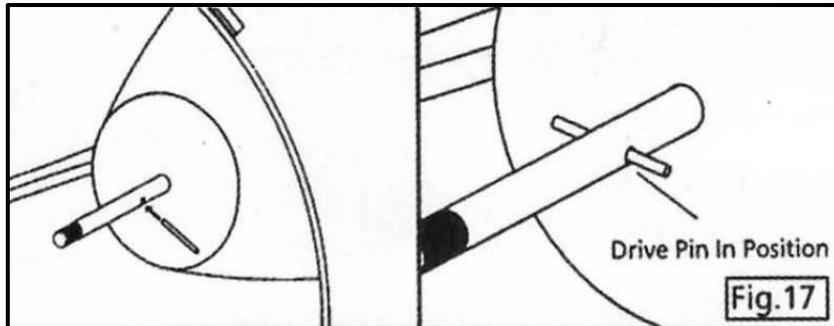

Fig.17
8. Replace the drive pin (if removed) – see Figure 17 – and Propeller. Turn the Propeller slowly until you locate the pin and push the Propeller fully on.